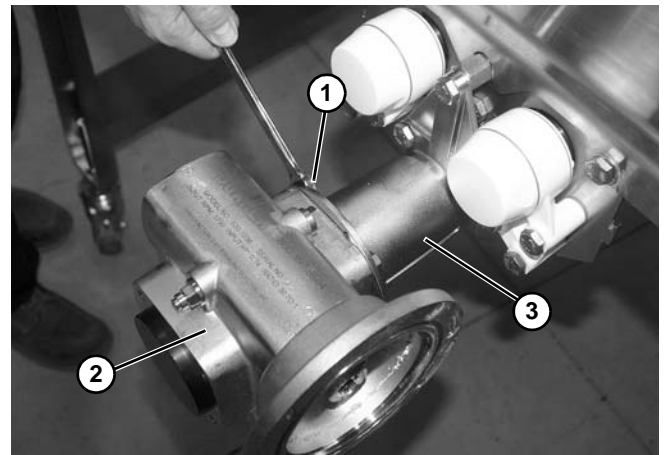

Figure 170
4. Loosen four screws (Figure 170, item 1) holding gear reducer (Figure 170, item 2) onto the motor mount (Figure 170, item 3).